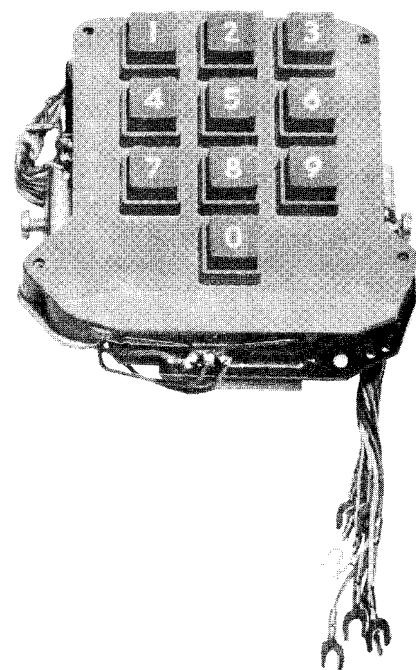

Fig. 1—10-Button 25-Type Nonconvertible Dial, Front View
2.01 The 25-type TOUCH-TONE® dial is a transistorized multifrequency dialing device equipped with pushbuttons having numbers or numbers and letters. Earlier versions of this dial have 10 buttons only (Fig. 1 and 2). Currently manufactured dials are convertible to 12-button operation by the addition of two snap-in special service buttons (Fig. 3 and 4).